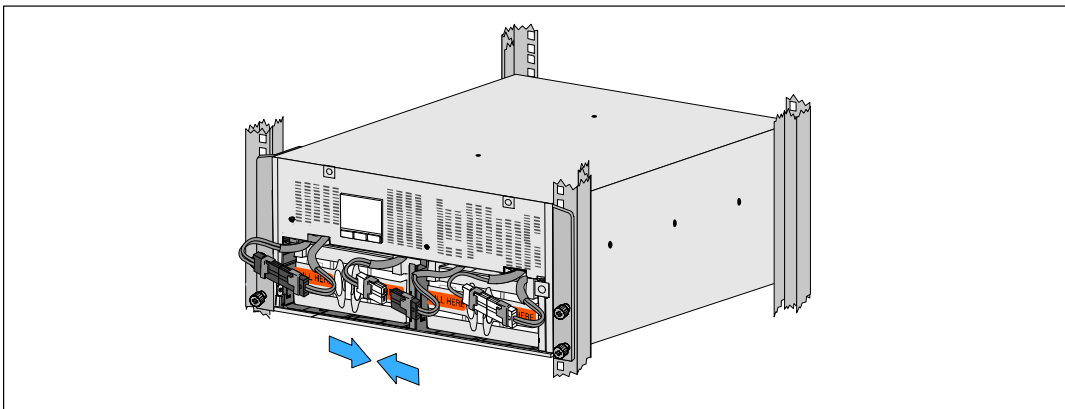

Figure 43. Connecting the Battery Connectors
- 7 Connect the internal battery connectors (see Figure 43):